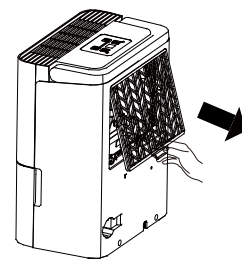

Fig. 10
- Grip the tab on the filter and pull it upward, then pull it out as shown in Fig.10.